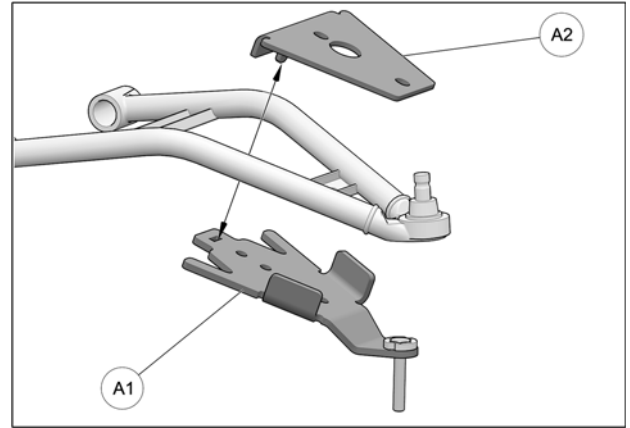

Fig. 11
5. Position bottom part of anchor bracket (A1) assembly under front lower suspension arm, as shown in the figure below. Position bracket cover (A2) over suspension arm and align holes in cover and bottom part. See Fig. 11